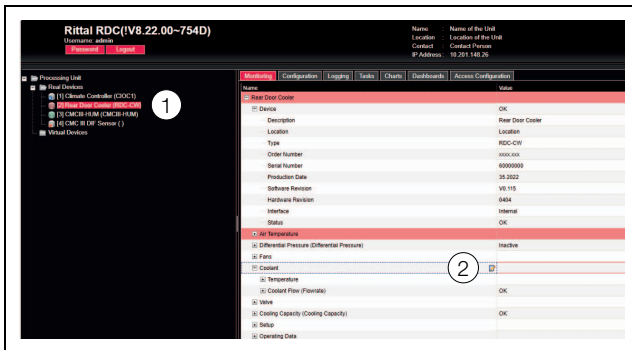

Fig. 101: Selecting multiple Data parameters
- Simply open the "Rear Door Cooler" entry by clicking on the "plus" symbol in front of that entry (fig. 101, item 1).
- Position the mouse pointer at the end of the first column in the "Rear Door Cooler" line (fig. 101, item 2). An "Edit" symbol will appear, and the mouse pointer will change to a "Hand" symbol.